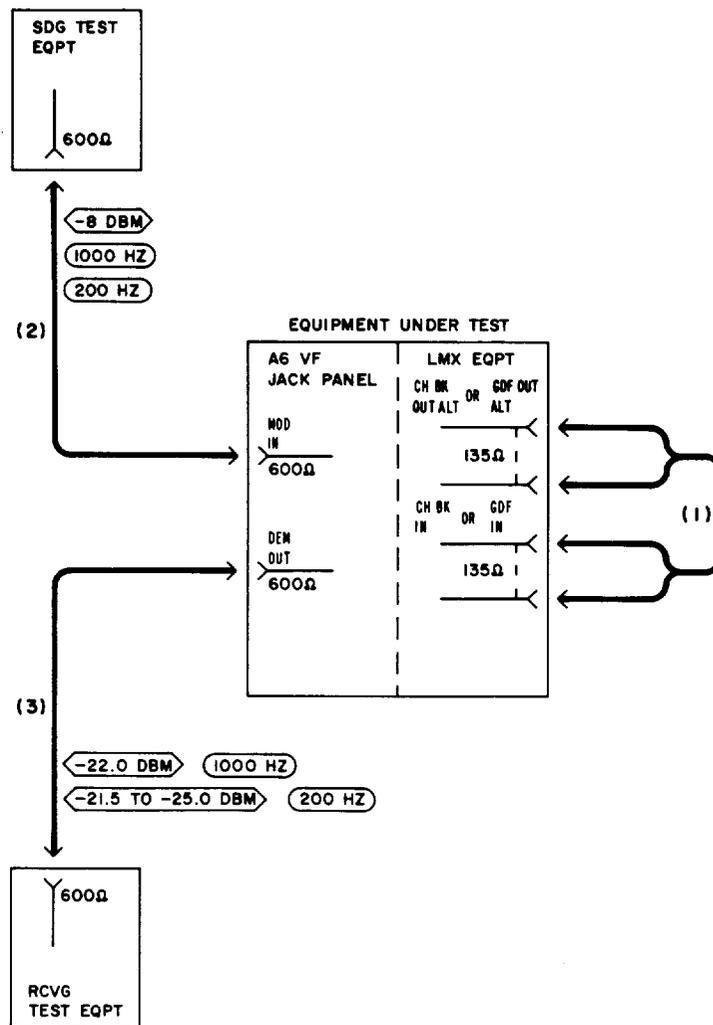

Fig. 18—Patching Diagram—Frequency Response Test—Unequal-Level Looping
3	At the LMX equipment, connect the CH BK OUT ALT (LMX-2) or GDF OUT ALT (LMX-3) jack to the CH BK IN (LMX-2) or GDF IN (LMX-3) jack [patch (1), Fig. 18].
4	Connect the STE to the MOD IN jack for Channel 1 of the channel bank under test [patch (2), Fig. 18].
5	Connect the RTE to the DEM OUT jack for the channel under test [patch (3), Fig. 18].
10	Remove patches (2) and (3), Fig. 18.
12	At the LMX equipment, remove patch (1), Fig. 18.  Note: If the channel bank under test is equipped for CFA, reinsert the CFA unit.